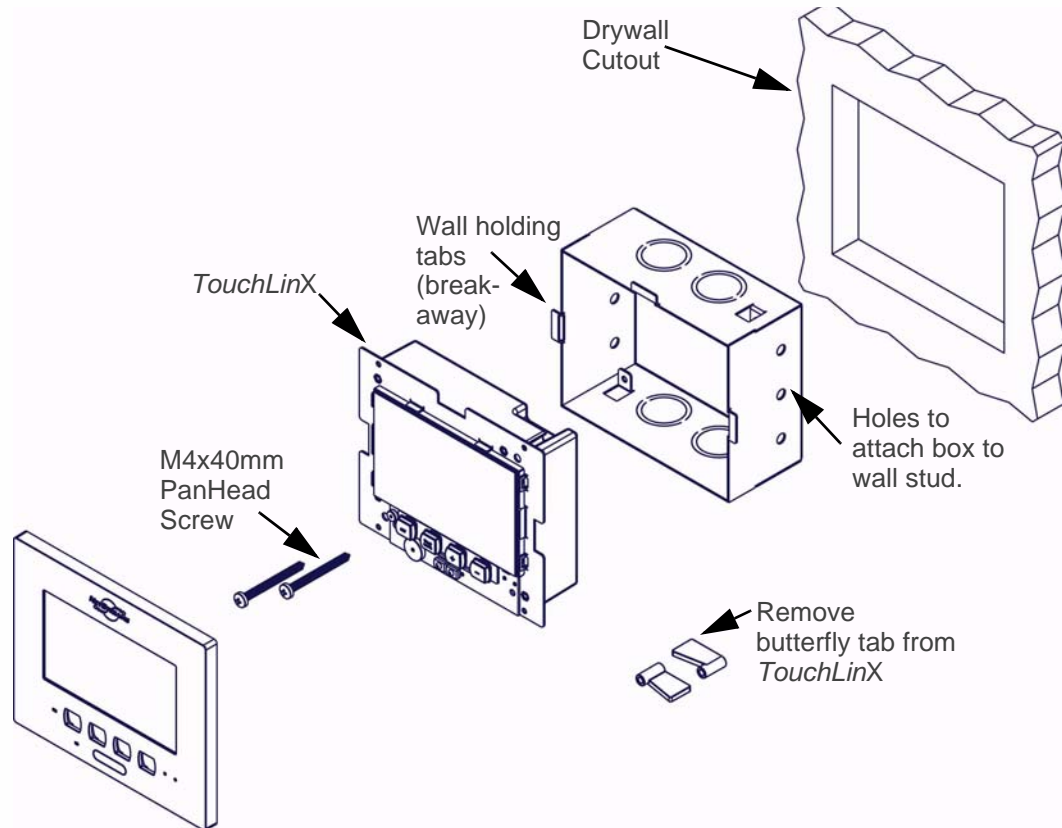

Figure 1 Installing the *TouchLinX* in a Rough-In Box
3. Mount the rough-in box in the hole in the wall as shown in Figure 1 on the following page.
6. Remove self-tapping screws and butterfly tabs from the *TouchLinX* as shown in Figure 1
8. Screw the two M4 x 40mm Pan head screws (included) into the two tabs at the top right and lower left inside of the rough-in box as shown in Figure 1.